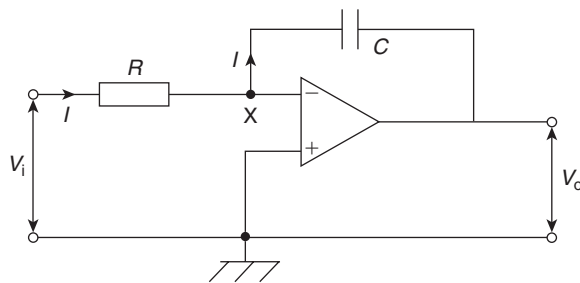

Figure 19.15
The circuit for the op amp integrator shown in Fig. 19.15 is the same as for the op amp inverting amplifier shown in Fig. 19.5, but feedback occurs via a capacitor C rather than via a resistor.
Since the inverting ($-$) input is used in Fig. 19.15, V_o is negative if V_i is positive, and vice versa, hence the negative sign in equation (9).
Since X is a virtual earth in Fig. 19.15, i.e. at 0 V, the voltage across R is V_i and that across C is V_o . Assuming again that none of the input current I enters the op amp inverting ($-$) input, then all of current I flows through C and charges it up. If V_i is constant, I will be a constant value given by $I = V_i/R$. Capacitor C therefore charges at a constant rate and the potential of the output side of C ($= V_o$, since its input side is zero) changes so that the feedback path absorbs I . If Q is the charge on C at time t and the p.d. across it (i.e. the output voltage) changes from 0 to V_o in that time then: